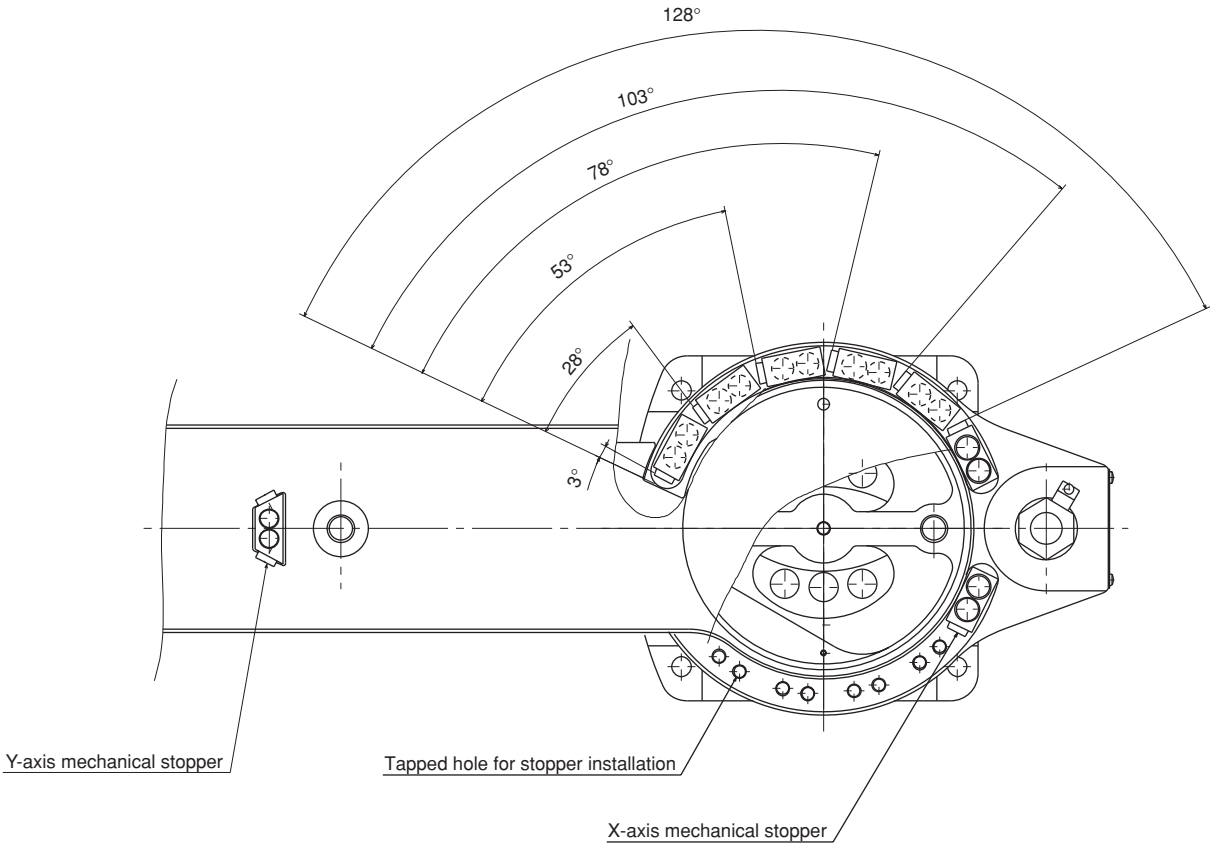

Fig. 3-43 Mechanical stopper positions and movement range (R6YXX1200)
- 5) Remove the X-axis mechanical stoppers installed as shown in Fig. 3-43 to Fig. 3-45. Then reinstall the mechanical stoppers at the positions that determine the desired movement range by tightening them to the torque specified in Table 3-4.